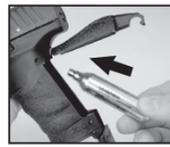

Fig. 3
- Pull down on the bottom of the grip. (Fig. 3).